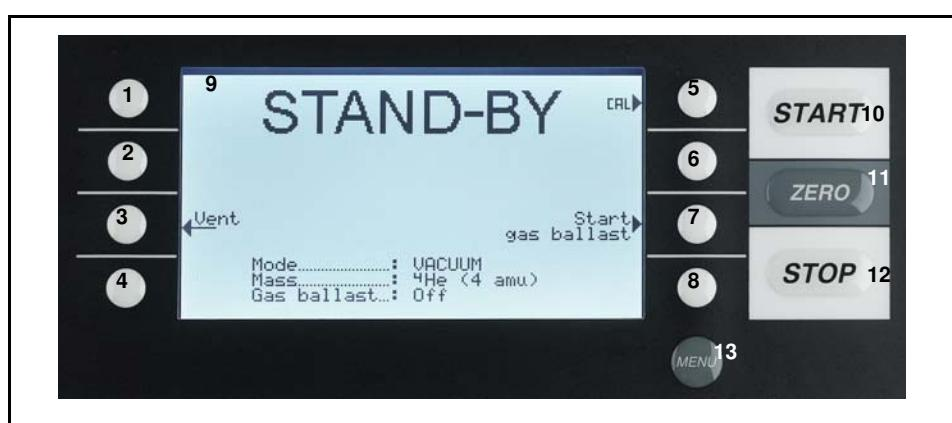
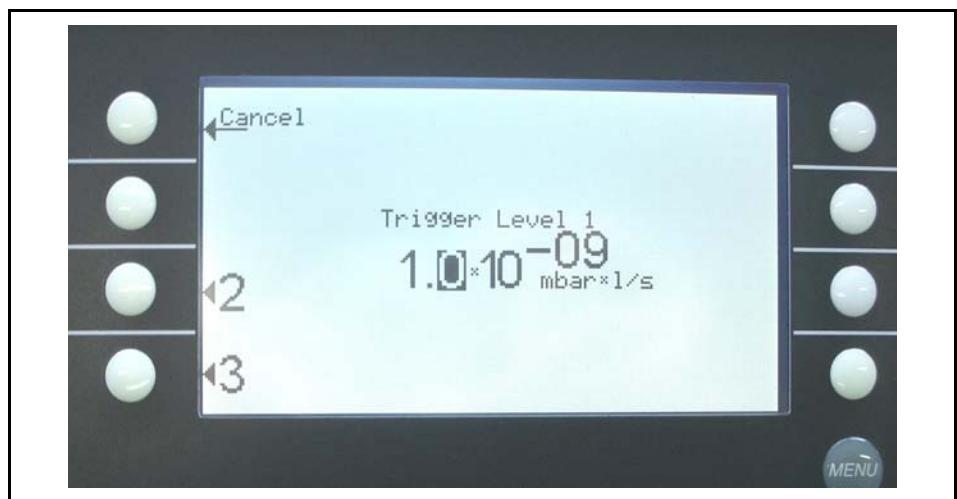

Fig. 12 Control panel
Fig. 16 Trigger level, change of the first digit
In standby mode the conditions are shown in the upper edge of the display (Fig. 12). Furthermore calibration (Please refer to Chapter 3.13) can also be started in standby mode and purging, too (Fig. 1/1)
After power on a welcoming picture appears on the screen of the control panel Fig. 12, the status information on the speed of the turbo pump, the fore vacuum pressure, the emission and the active filament are given.
The start up procedure takes less than 2 minutes and the end is indicated by a signal. The PHOENIX L300i is in standby mode now.(Fig. 12)
Press Calibration (Soft Key no. 5 Fig. 12 /5) to get into the calibration menu.
Select internal (Soft Key no. 4, Fig. 12 /4) to choose the internal calibration.
9. Press the STOP button Fig. 12 /12 until the message STANDBY/VENTED appears on the display. The inlet is vented now.
11. Press the START button Fig. 12 /10. The inlet will be evacuated and the leak rate of the test leak will be measured and displayed.
12. Press the STOP button Fig. 12 /12 to stop the measurement. The PHOENIX L300i goes into standby mode.
13. Press the STOP button Fig. 12 /12 again until the message STANDBY/VENTED appears on the display. The inlet is vented now.
16. Press the START button Fig. 12 /10. The test object will be evacuated.
18. Press the STOP button Fig. 12 /12 to stop the measurement. The PHOENIX L300i goes into standby mode.
19. Press the STOP button Fig. 12 /12 again until the message STANDBY/VentED appears on the display. The inlet is vented now.
The Control panel Fig. 12 contains a liquid crystal display (LC Display), the START, STOP, ZERO and MENU buttons and eight soft Keys for the different menus and inputs selections.
The LC Display Fig. 12 /9 is the communication interface to the operator. It displays the leak rates, the status report of the PHOENIX L300i, messages, warnings and errors. With the soft keys no.1 to no. 8 various functions which are shown in the display can be selected
Pushing the START Button Fig. 12/10 enables the PHOENIX L300i to start the measure procedure. The measured leak rate is shown in the display. If the START button is pushed again in measurement mode, the maximum leak rate indicator („hold“ function) is activated. This indicator shows the maximum leak rate since „START“. By pressing the START-button again the „hold“ function will be started again.
Pushing the STOP Button Fig. 12/12 interrupts the measure procedure. If the button is pressed longer the inlet is vented according to the conditions defined in the menu Vent delay. See Chapter 3.10.1 to select the time parameters of the venting.
Pushing the ZERO button Fig. 12/11 enables the zero mode. (see also Chapter 3.10.2)
When pressing the MENU button (Fig. 12/13) the selecting menu is shown at the display. This function is not depending on the operating mode when calibrating.
The function of the eight Soft Keys Fig.12/1...8 depends on the current menu.
Soft Key no. 1 Fig. 12/1 is Cancel.
Soft Key no. 8 Fig. 12/8 is OK.
To change the trigger level $1.0 \cdot 10^{-7}$ mbar l/s to $3 \cdot 10^{-7}$ mbar l/s please press 2/3 (Soft Key no. 3, Fig. 16) . Please consider that the first digit is displayed inverted. If not please change the digit with \rightarrow (softkey no. 8) or \leftarrow (softkey no. 4). With the soft key no. 4 (Fig. 12) the chosen value can be selected.
In the submenu press 3 (soft key no.4) Fig. 16